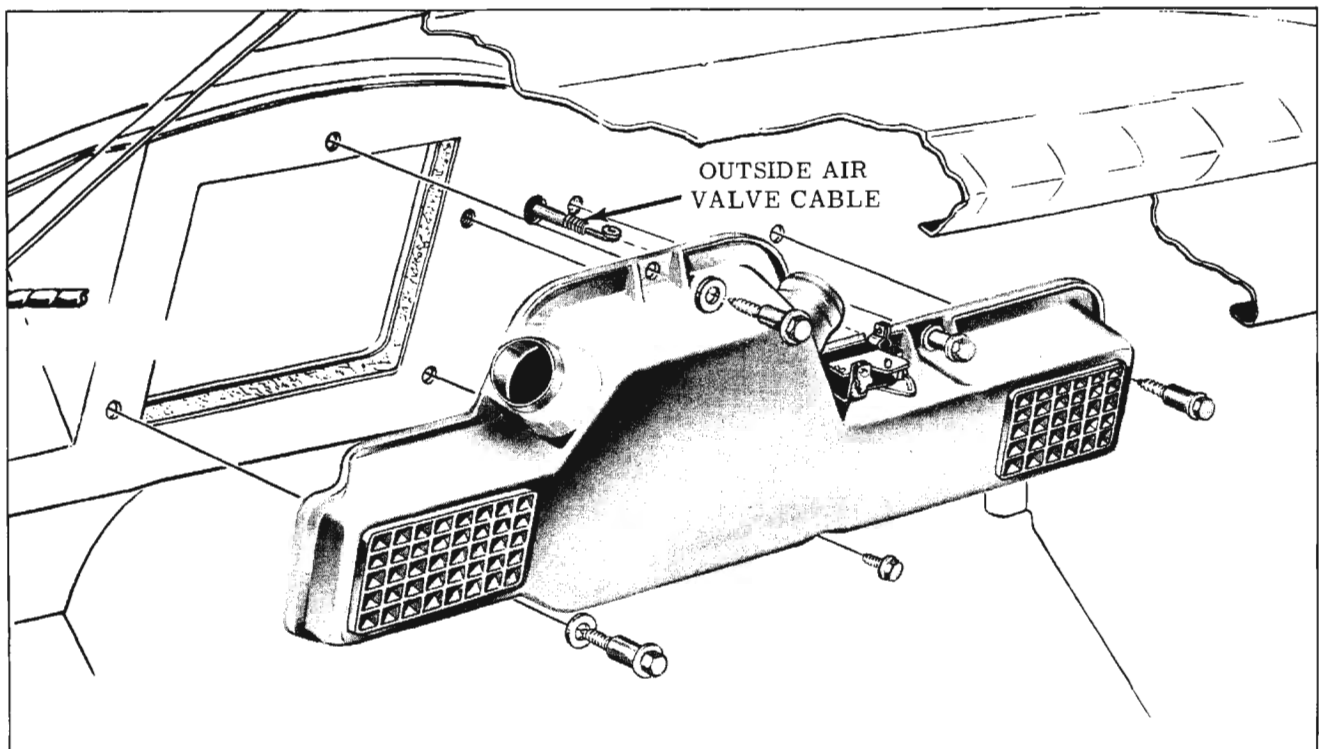

Fig. 15-107 Heater Distributor Case
2. Remove the distributor case to cowl screws and remove distributor assembly. (Fig. 15-107)